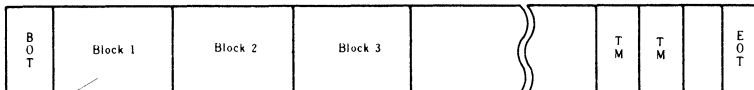

Figure 7-1. Magnetic Tape Format
- The end of the file should be indicated by 2 successive tape marks (TM) (figure 7-1).